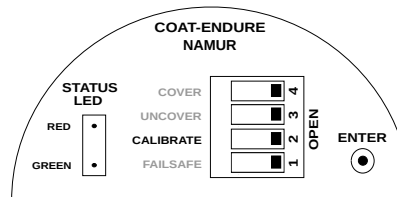

Figure 52: Saving Calibration
- Open the housing cover and set the CALIBRATE switch back to OPEN position as shown in Figure 52.